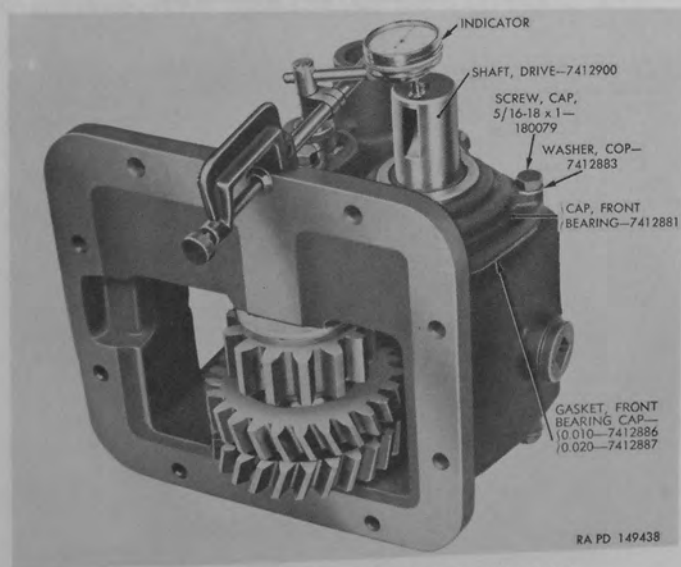

Figure 93. Checking drive shaft bearing adjustment.
h. Check bearing adjustment with dial indicator mounted as shown in figure 93. Adjustment is correct when there is 0.005-inch end play in drive shaft (VV).